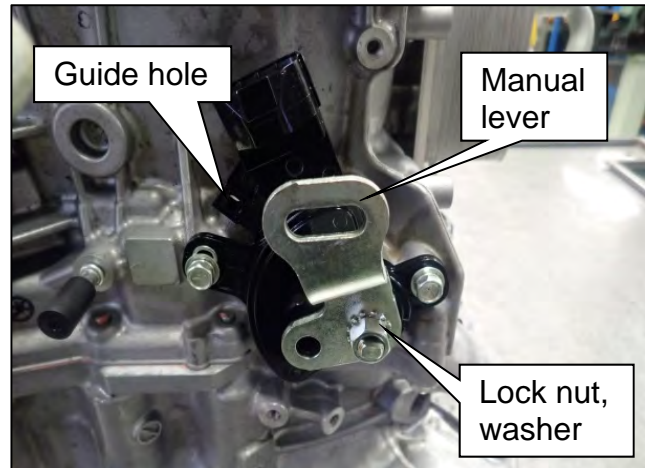

Figure 214
- The alignment pin will insert into guide hole in the transmission range switch (Figure 214).